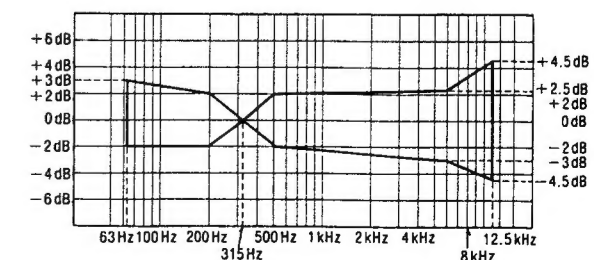

Fig.6
2. Assume that the frequency response is within the range shown in Fig. 6 for both L-CH and R-CH.